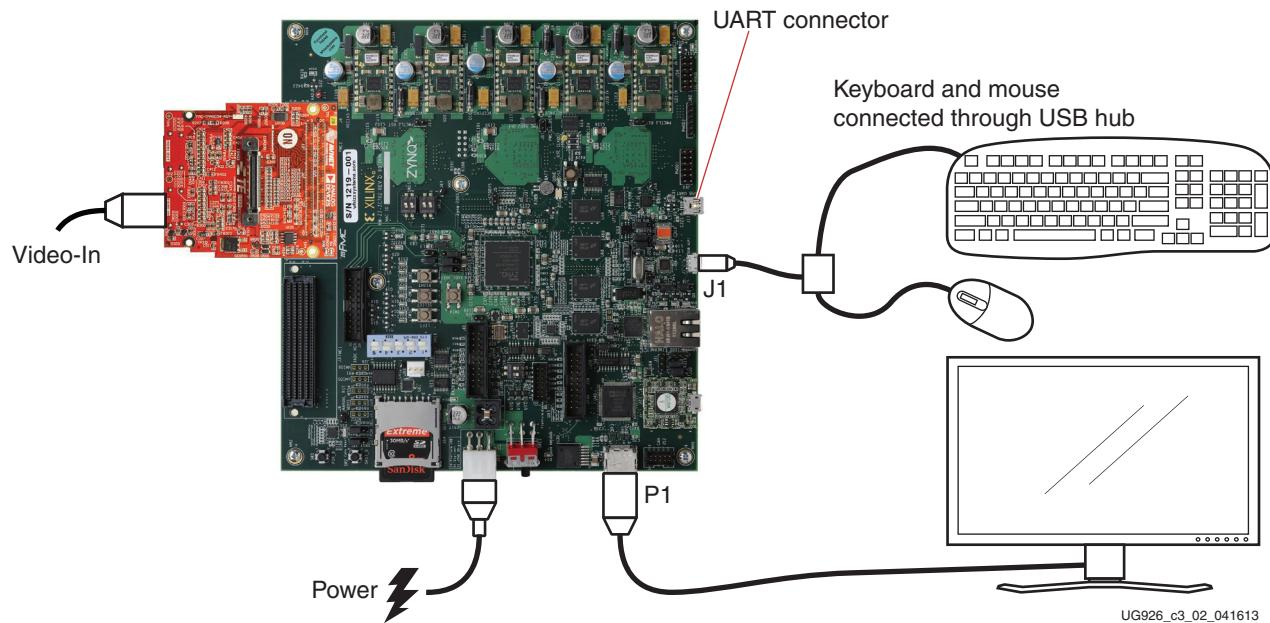

Figure 3-2: ZC702 Board Setup for a Video Demonstration
2. Connect the cables as shown in Figure 3-2 to prepare the ZC702 board to run the TRD video demonstration.